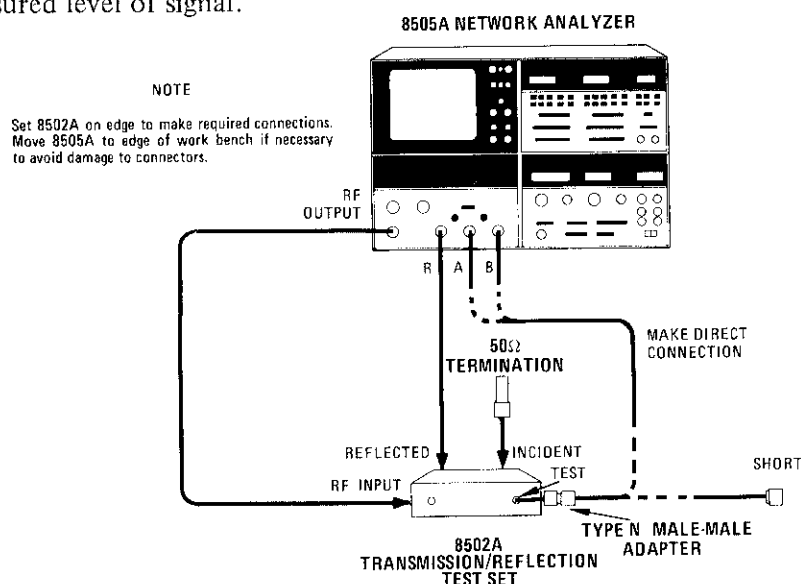

Figure A4-19. Input Impedance Test Setup
- b. Connect equipment as shown in Figure A4-19 with the short connected to the TEST port of the 8502A Transmission/Reflection Test Set and RF INPUT ATTENUATION switch set to 0 dB.